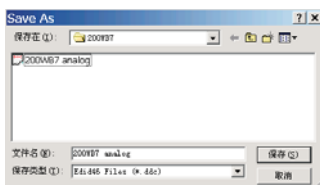

Fig. 25
- Click (Save) icon (or click "file"-> "save as") from the tool bar and give a file name as shown in Fig. 25. The file type is EDID46 file (\*.ddc) which can be open in WordPad. By using WordPad, the texts of DDC data & table (128 bytes, hex code) can be modified. If DDC TEXTS & HEX Table are completely correct, it can be saved as .ddc file to re-load it into DDC IC for DDC Data application.